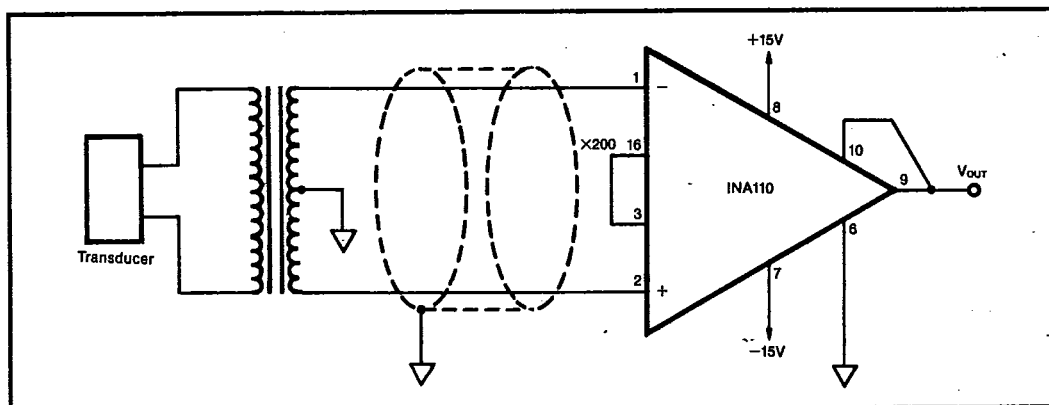

FIGURE 7. Transformer-Coupled Amplifier.
In addition to general purpose uses, the INA110 is designed to accurately handle two important and demanding applications: (1) inputs with high source impedances such as capacitance/crystal/photodetector sensors and low-pass filters and series-input protection devices, and (2) rapid-scanning data acquisition systems requiring fast settling time. Because the user has access to the output sense, current sources can also be constructed using a minimum of external components. Figures 7 through 24 show application circuits.